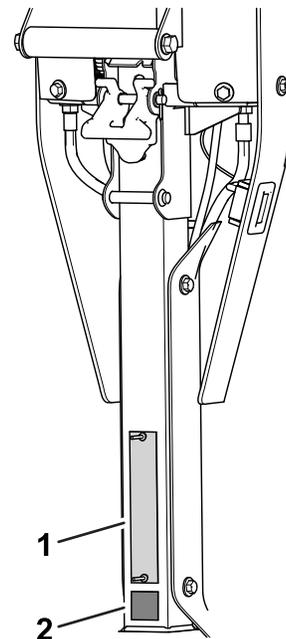

Figure 10
- Install the CE decal below the serial plate (Figure 10).